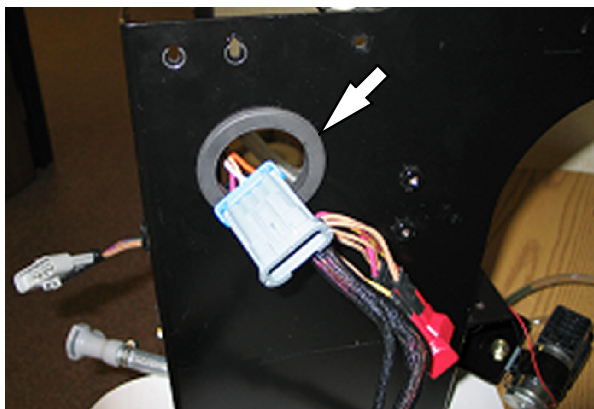

FIG. 9
11. Carefully pull FaST solution pump group and FaST air pump and detergent group from the FaST bracket and pull all cables out through the hole in the FaST bracket. Discard the FaST bracket. Refer to Fig. 9.